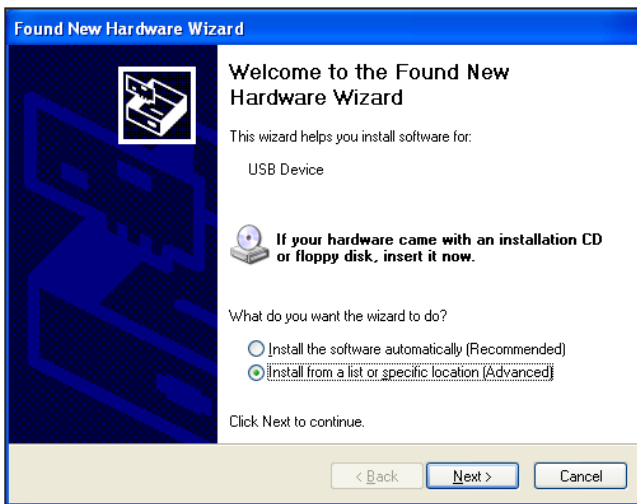

Figure 16. Install Driver Software—Manual Install
- 1) Check **Install from a list or specific location (Advanced)** and click **Next** to continue. See Figure 16.